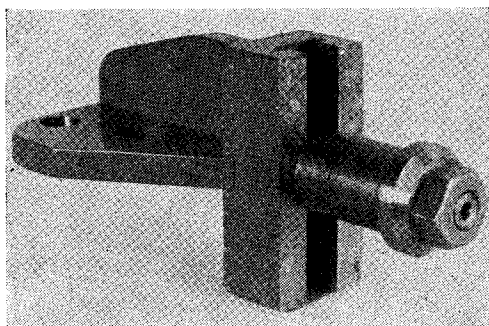

Fig. 8. The slide bracket "H," with little-end bolt in position
THE slide bracket (H) illustrated in Fig. 8 is also of built-up construction. Whilst every care should be taken in making the various parts comprising the bracket, it should be remembered that the face of the T-slotted component may be machined truly at right-angles to the abutment face of the triangular plate after the bracket has been put together. To do this, the component is secured to an angle-plate fixed to the faceplate by means of bolts passing through the two large holes seen in the dimensioned